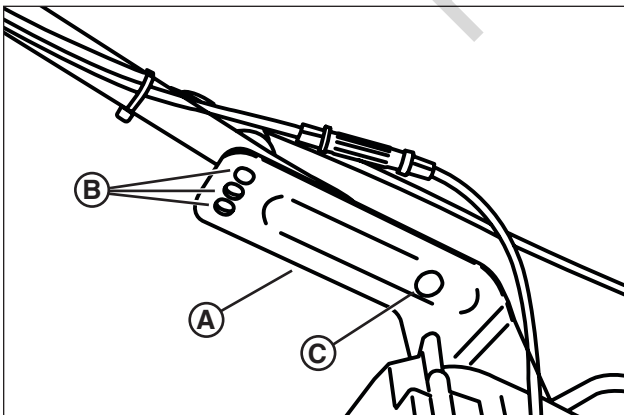

Figure 8: Adjusting the handle height
1. Remove the handle knobs, washers and carriage bolts from the lower handle (**A**, **Figure 8**).